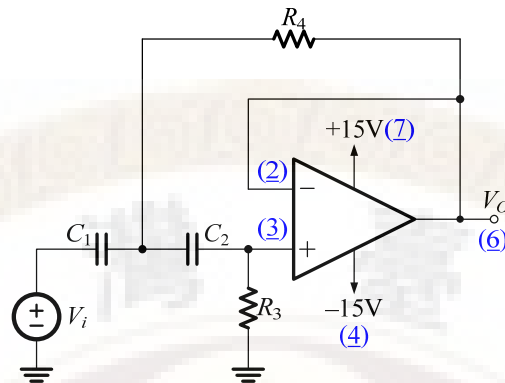

Fig. 2 SAB Active HPF
- (1) Employ the designed value of C_1 , C_2 , R_3 , R_4 to the circuit in Fig. 2.
- (2) Apply the input small signal V_i to the breadboard by using function generator to generate $v_i = v_{ac} \times \sin(2\pi ft)$, $2v_{ac} = 1V_{(p-p)}$.
- (3) Make sure that the v_i is measured from the breadboard by using the probe from **CH1** in oscilloscope.
- (4) Keep the previous adjustment of V_i constantly, and do not adjust the amplitude tuner in function generator any further.
- (5) Oscilloscope ► **YT mode**.
- (6) Oscilloscope ► Observe $V_{i(p-p)}$ in **CH1** and $V_{o(p-p)}$ in **CH2**.
- (7) Record the voltage gain $A_M = \frac{V/V}{V/V}$ ($V_o/V_i \sim 1$) as $f > f_{H3dB}$.
- (8) Record the frequency $f_{H3dB} = \underline{\hspace{2cm}} \text{ Hz}$.
- (9) Change the frequency of input voltage source, and record the input and output voltage shown in oscilloscope to the following table.